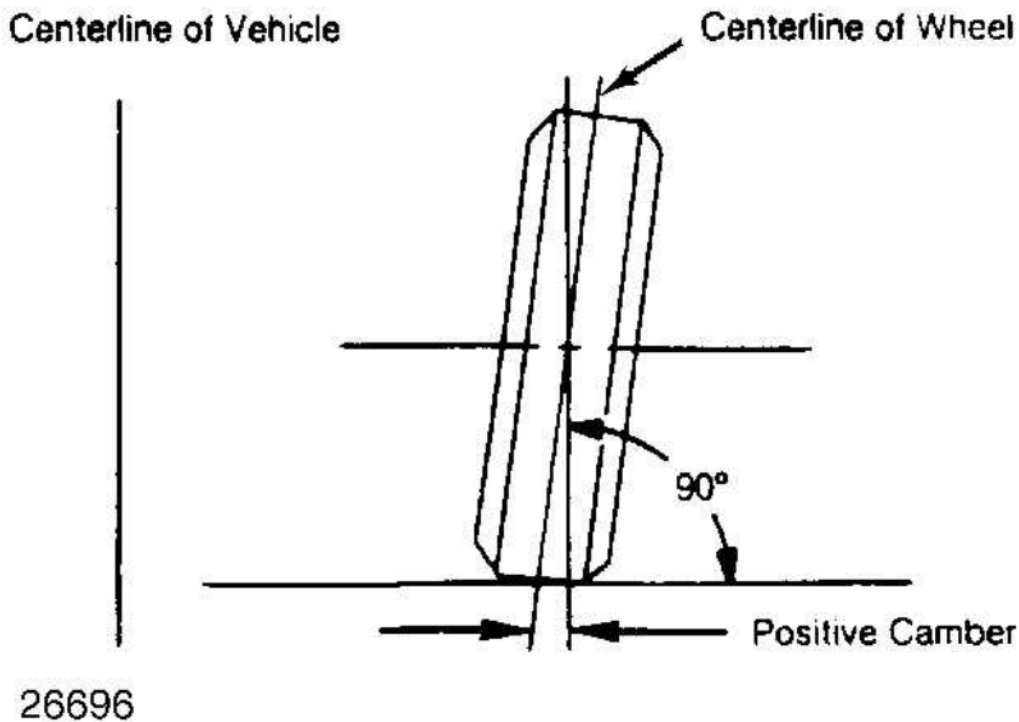

Fig. 3: Determining Camber Angle
1. Camber is the tilting of the wheel, outward at either top or bottom, as viewed from front of vehicle. See **Fig. 3**.